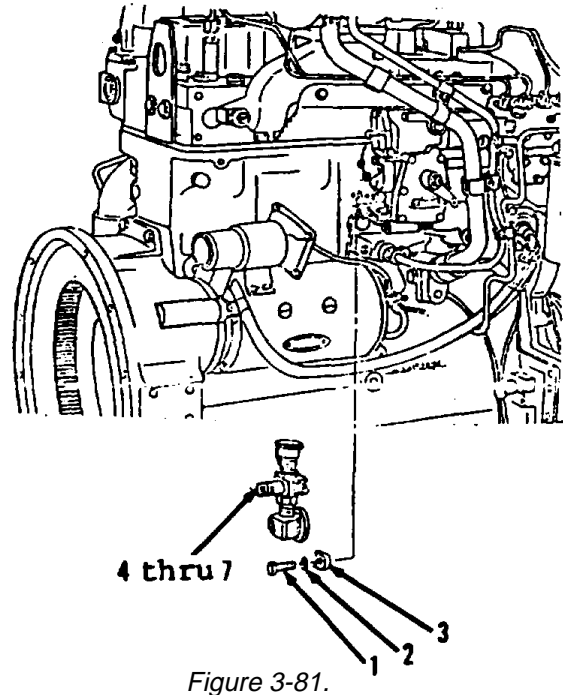
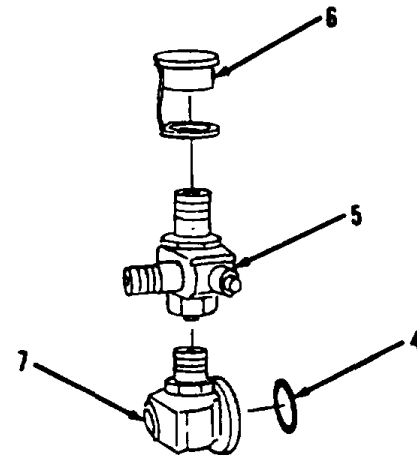

Figure 3-81.
Figure 3-82.
1. Remove bolt (1) lockwasher (2) and clamp (3, Figure 3-81) from rear fuel injection pump, right side of engine.
2. Remove items 4 thru 7 as an assembly from fuel injection pump rear governor housing.
3. Remove and discard preformed packing (4, Figure 3-82).
4. Remove adapter (5) from adapter (7).
5. Remove two caps (6).
1. Install two caps (6) on adapter (5, Figure 3-82).
2. Install adapter (5) on adapter (7).
3. Install new preformed packing (4) on groove of adapter (7). Lubricate outer diameter with clean oil.
4. Install items 7 thru 4 as an assembly (Figure 3-81). Aline shaft of adapter (7) with shaft in rear governor housing.
6. Install clamp (3), lockwasher (2) and bolt (1).